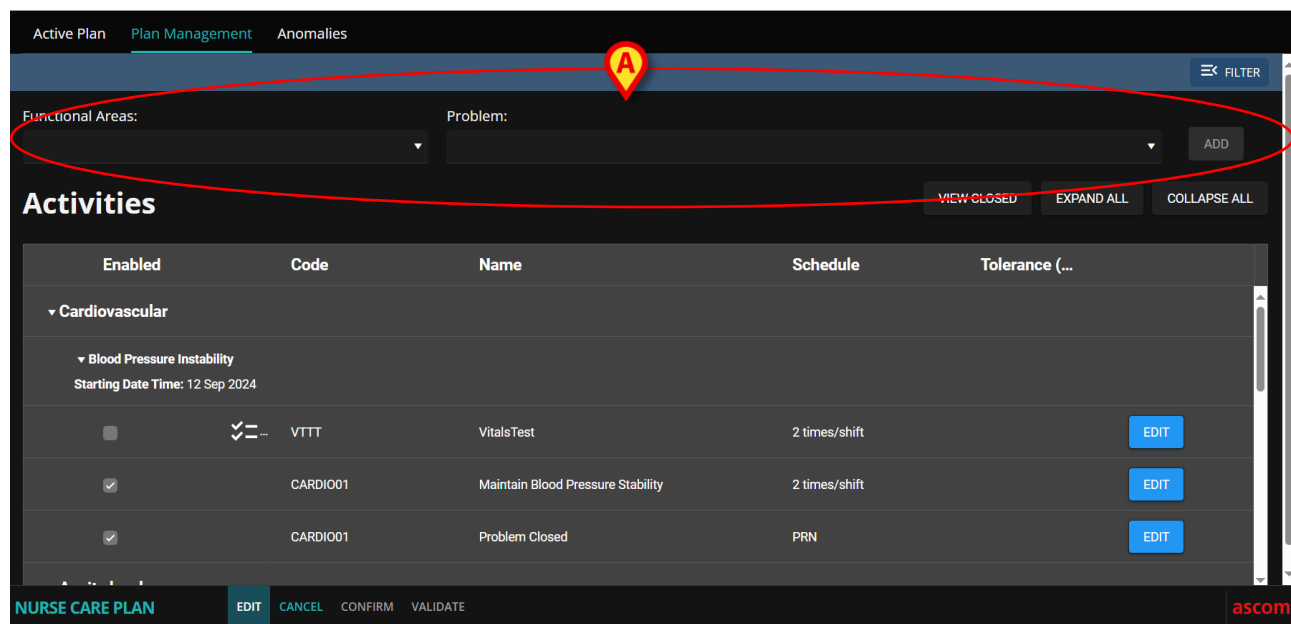

Fig 8
The screen changes in the following way (Fig 8).
- Select a functional area and a problem in the available fields (Fig 8 A, Fig 9).